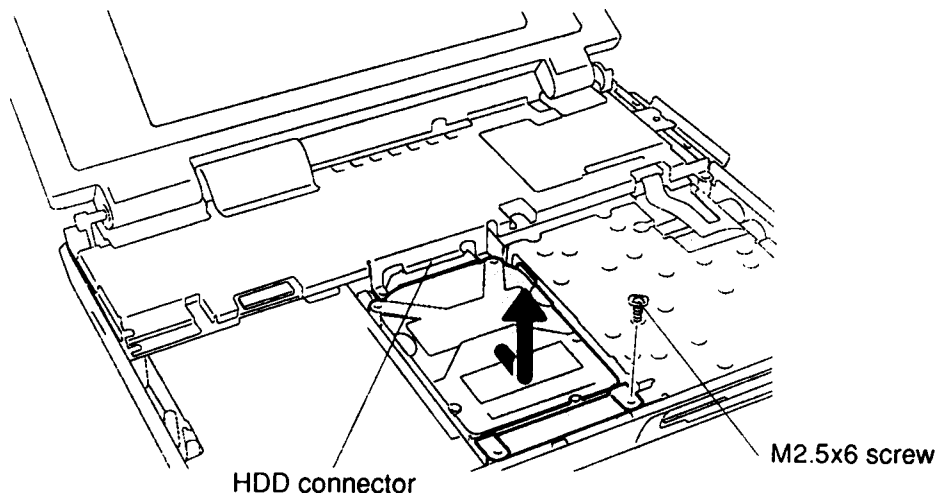

Figure 4-11 Removing the HDD
6. Remove the **M2.5x6 screw** from the front of the HDD, and slide the HDD to the front to disconnect the **HDD connector** (Figure 4-11).
6. Secure the **M2.5x6 screw** at the front of the HDD (Figure 4-11).